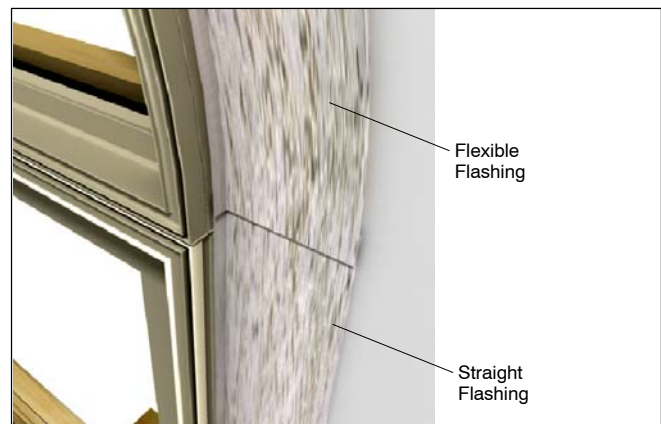

Figure 13: Use flexible flashing for radius head jambs
7. **Round Top Applications:** Flexible adhesive flashing is one way of flashing units with radius head jambs. Flash the vertical legs of the window first and then overlap the flexible flashing onto the vertical flashing. See figure 13.